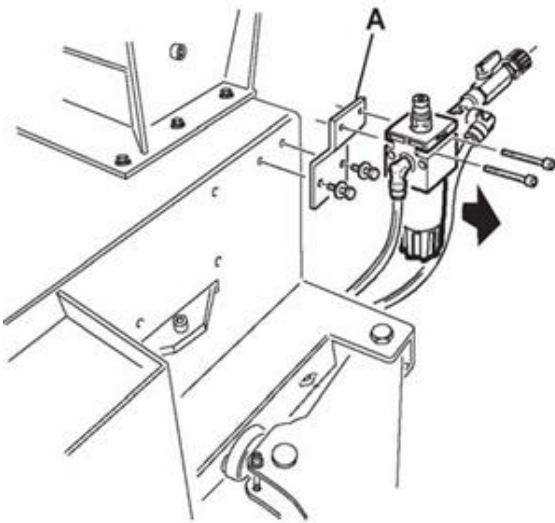

Fig. 3
- Unscrew the lubricator support (fig. 3 ref. A).